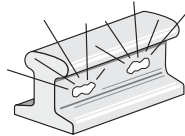

FIGURE 5
**WARNING:** The area of the rail web to be bonded must be lightly ground to a bright finish with no visible scratch marks or gouges (normal uniform finishing marks are acceptable). Failure to observe this may result in visible scratches or gouges due to overly aggressive grinding that are potential crack initiators and that may lead to rail breaks causing derailment accidents with property damage, injury and death to others. See Figure 5.